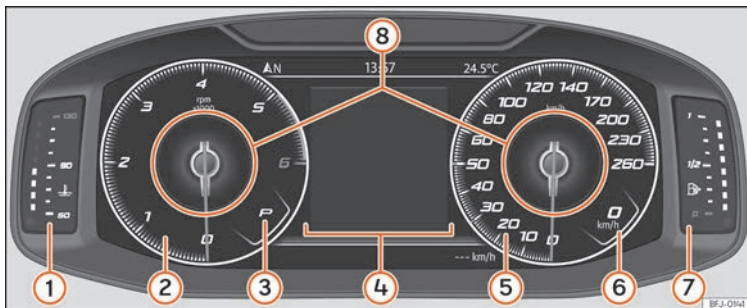

Fig. 69 SEAT Digital Cockpit on the instrument panel (classic view).
In *Classic View* and *Semicircular watches* it is possible to customise the information displayed under **Information Profiles** »» Fig. 69 ⑧.